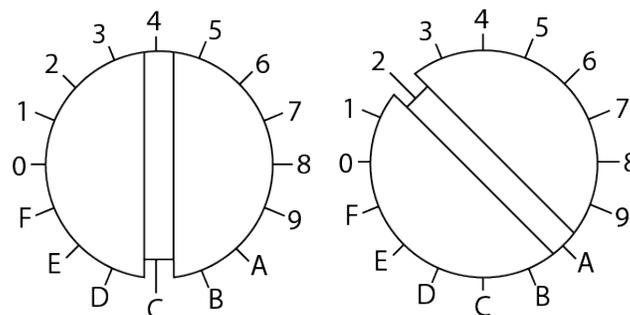

Figure 3-10 Hex Switch "C2" Position
- STEP 1:** Rotate the switches to the hex representation of 194, i.e. 0xC2, as shown in **Figure 3-10**.